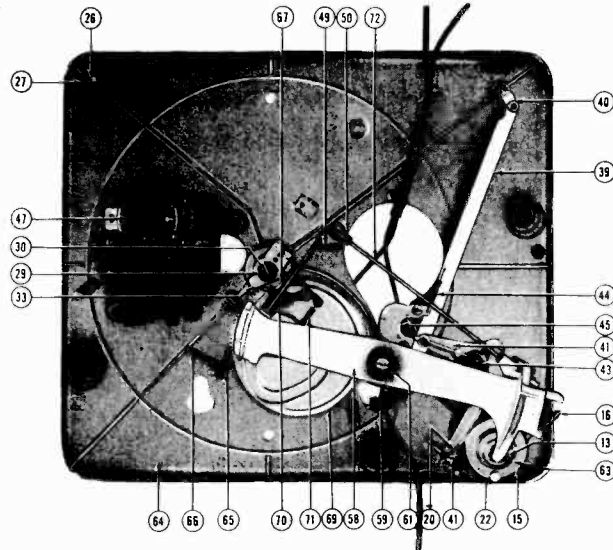

Fig. 4
- b. Control Lever (41) should be engaging leg on Set Down Locator (20) as shown in Figs. 4 and 7. If improperly set, position Set Down Locator (20) correctly.